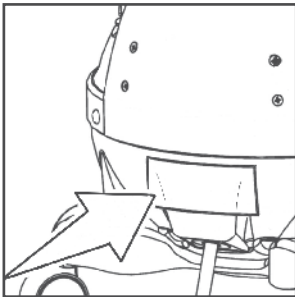

FIG. 3
- 3 Before connecting the steam generator to the electricity supply check that the voltage on the rating label is the same as the mains supply. The rating label is located on the underside of the steam generator body (Fig. 3). Make sure that the electrical outlet is grounded and has protection differential.